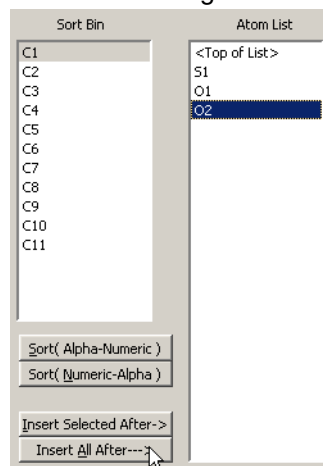

Figure 9.34 - refine 2019
4. Highlight O2 and click on Insert All After --- > as in Figure 9.34.